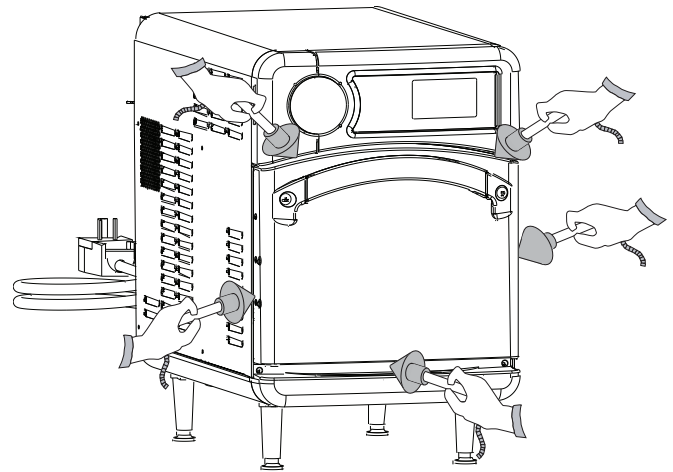

Figure 30: Survey Meter Placement
6. Measure microwave emission around the door as shown in Figure 30, moving the meter sensor at 0.5 inches/second.